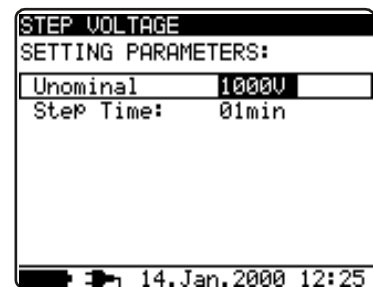

Fig. 16. Set-up menu in Step Voltage Test
- Press the **SELECT** key, Set-up menu appears on display, see the figure 16.